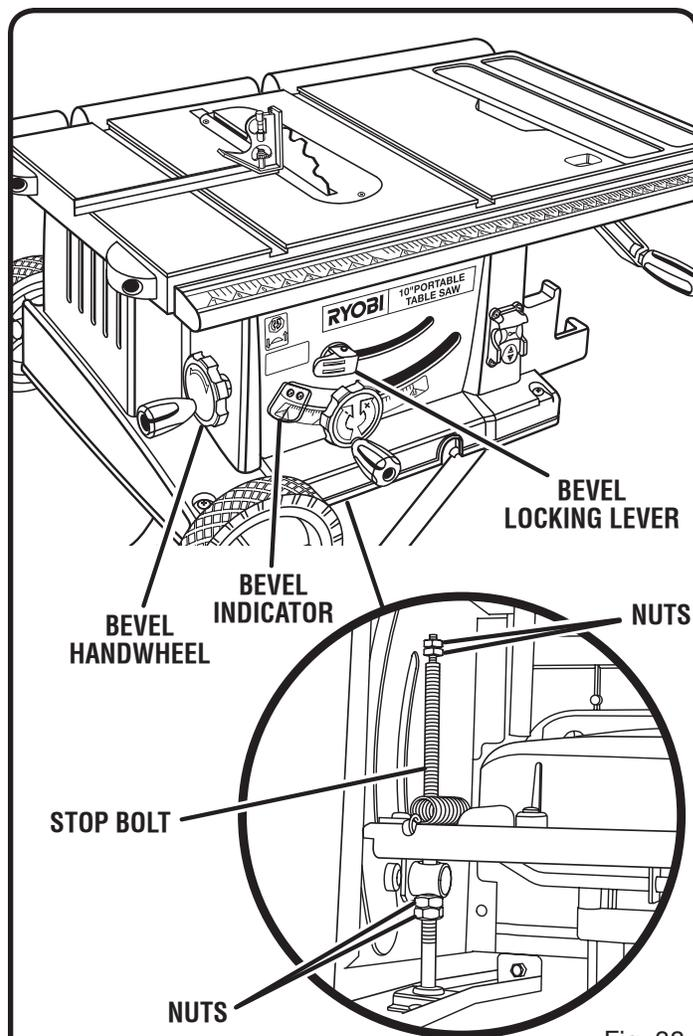

Fig. 38
See Figure 38.
- If the blade is not perfectly vertical (0°), loosen the nuts on the stop bolt inside the cabinet, position the blade, adjust the stop bolt, then retighten nut. See Figure 38, insert.
- If the blade is not an exact 45°, loosen the nuts on the stop bolt inside the cabinet, position the blade, adjust the stop bolt, then retighten lock nut. See Figure 38, insert.